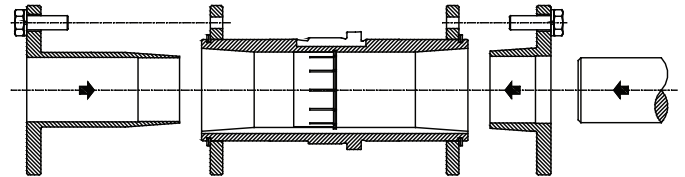

Figure 1 - Short Shaft Bushing Output Hub Assembly
- The long bushing is designed to be installed from the side of the reducer opposite the driven equipment as shown in Figure 1. The long bushing when properly installed is designed to capture the end of the customer shaft that does not extend through the reducer. Normally the reducer would be mounted
- Install the tapered bushing wedge into the hollow bore of the reducer from the same side as the long bushing will be installed. When installing the tapered bushing wedge into the reducer hub, install the flange end first so that the thin taper is pointing outwards towards the long bushing as shown in Figure 1. The wedge is properly installed when it snaps into place in the reducer hub.